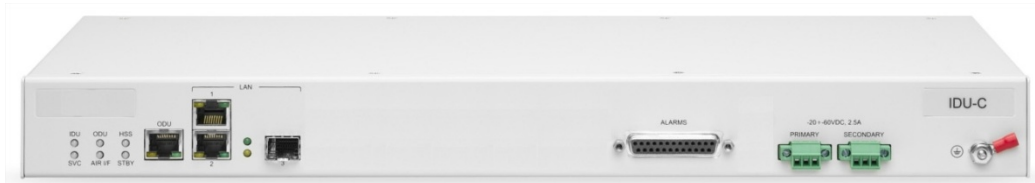

Figure 1: IDU-NetStream RM Package contents - the IDU-NetStream RM, Ethernet only
- IDU-NetStream RM - see Figure 1 below.